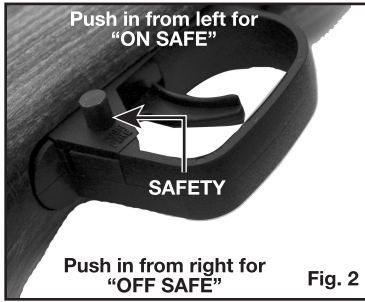

Fig. 2
- The safety is ON and the airgun is "ON SAFE" when the safety button is pushed from the left to the right (No Red Showing) Push the safety from the left side to flush. (see Figure 2)